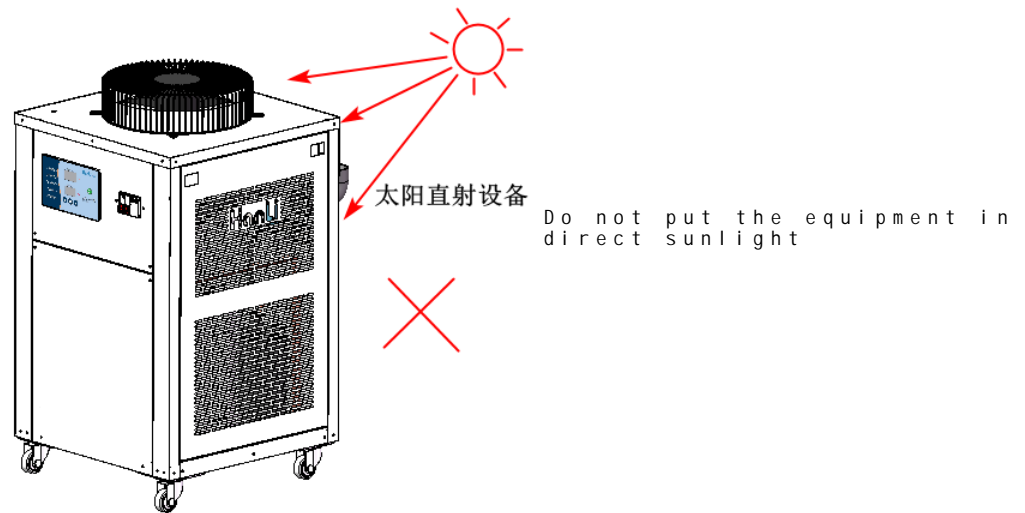

Fig5 Equipment installation environment requirements
- The product must not be installed in harsh environments such as corrosive, flammable gas, heavy dust, oil mist, metal and other conductive dust, high temperature and humidity, strong magnetic field, direct sunlight, etc., as shown in Figure 5.